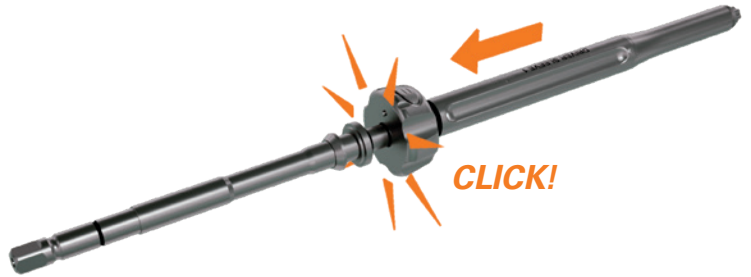

Figure 14
- ▶ Slide Driver Sleeve 1 over the distal end of the Torx Driver and lock into place (**Fig. 14**).